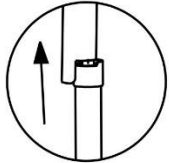
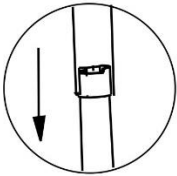

Figure a-1
Figure a-2
- 3) When you want to put the treadmill to the work position, please lift the end of main fame (end cap) a little to make the foldaway support tube higher than the cylinder cover (see figure a-1), tip the foldaway support tube with your foot slightly (see figure a-2), press the end of main fame (end cap) forcibly, remove your foot and keep on pressing the end of main fame for a while. The cylinder will shrink under the weight of itself (see figure b) and the main fame goes flat.